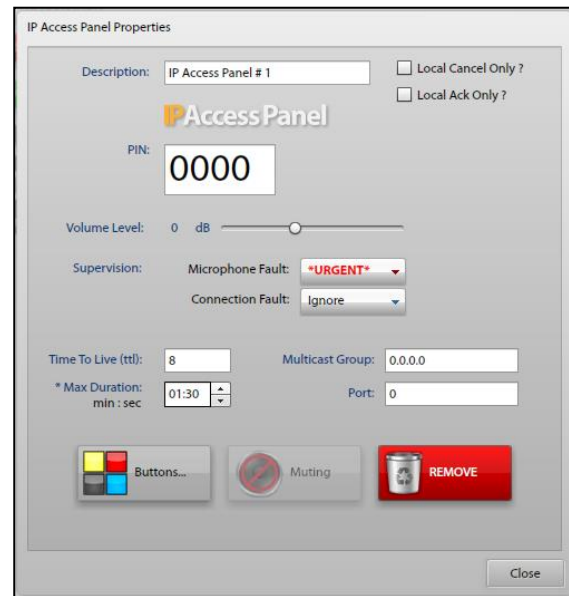

Figure 43. IP Access Panel Properties
2. Click an IPAP in the IP ACCESS PANELS SUMMARY screen to configure the IPAP properties (see Figure 43).